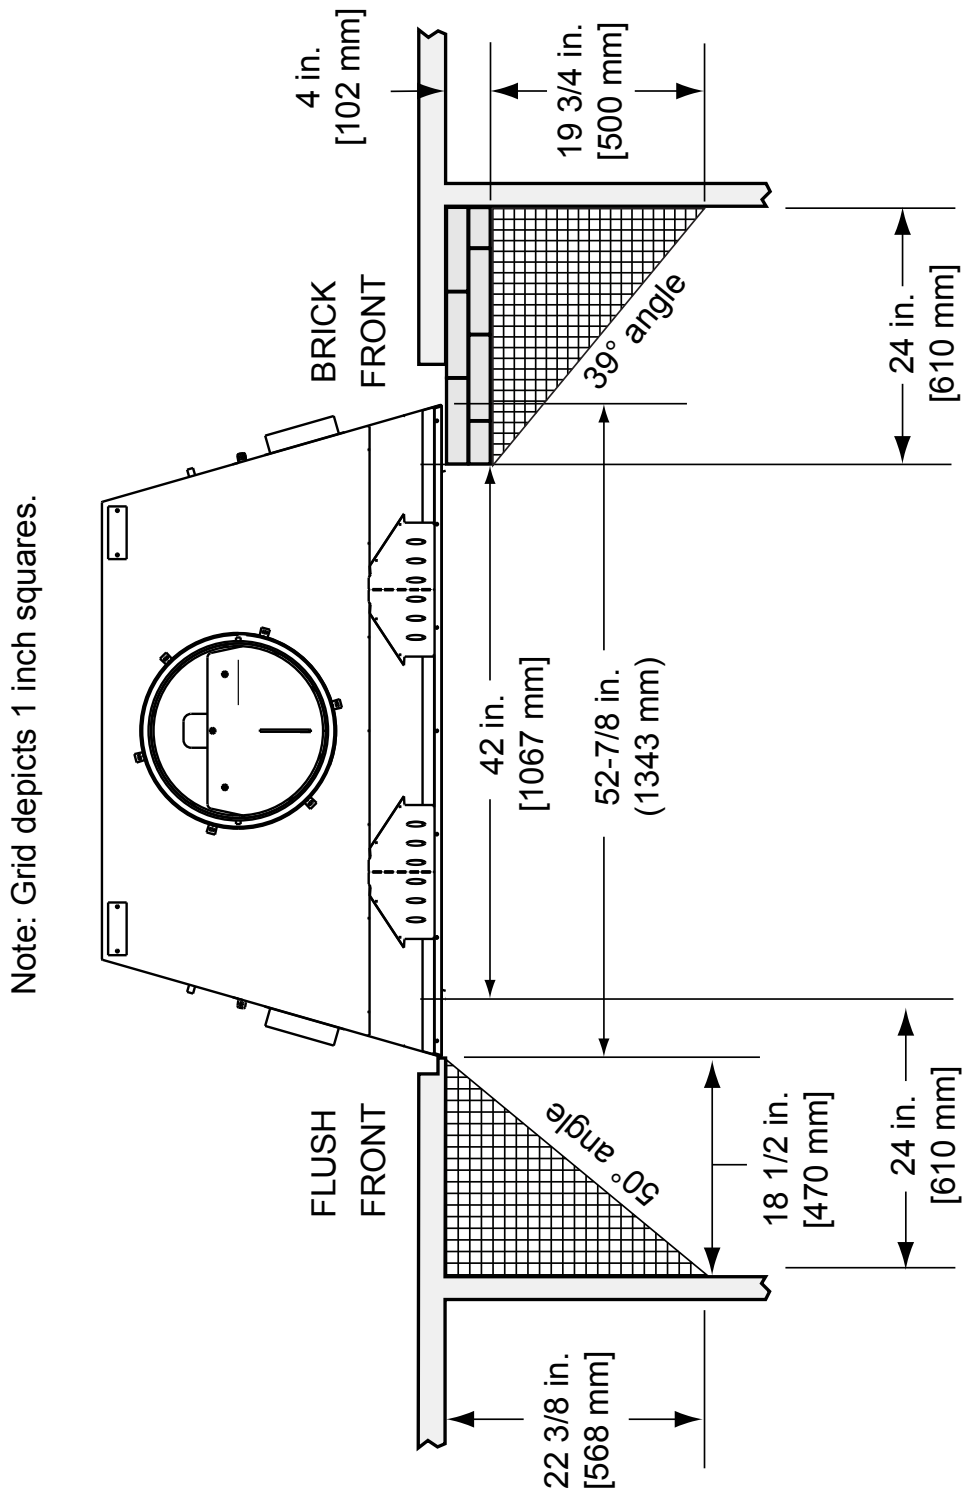

Figure 12.12 Combustible Mantel Leg or Wall Projections (Acceptable on both sides of opening)
- Combustible mantel legs, surrounds and stub walls may be constructed per Figure 12.12.